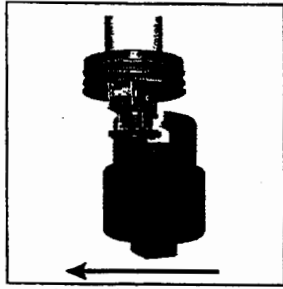

Fig. 1 - G3 R/C Wrench
- The Model G3 R/C wrench (Fig. 1) is designed to locate on the wrenching pads of the recessed sprinkler while centering in the cup. A standard 1/2" drive ratchet may be used to drive this wrench. Figures 1 and 2 show sequentially the insertion of the wrench. First the wrench, with its jaws above the sprinkler deflector, is moved laterally until centered with the cup. Then raise the wrench inside of the cup until its jaws engage the sprinkler's square wrenching pads (Fig. 3). To remove the wrench, follow this procedure in reverse order. Care should be taken to avoid striking the deflector, with the wrench.